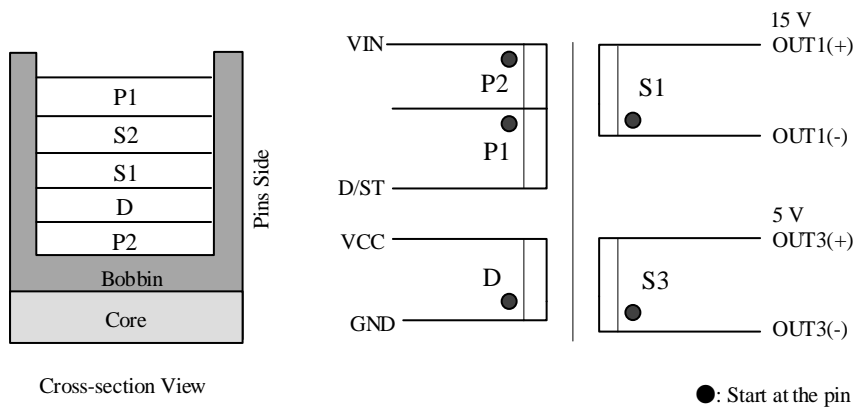

Figure 12-1. Winding Structure
- Winding Specification: See Table 12-1 and Figure 12-1